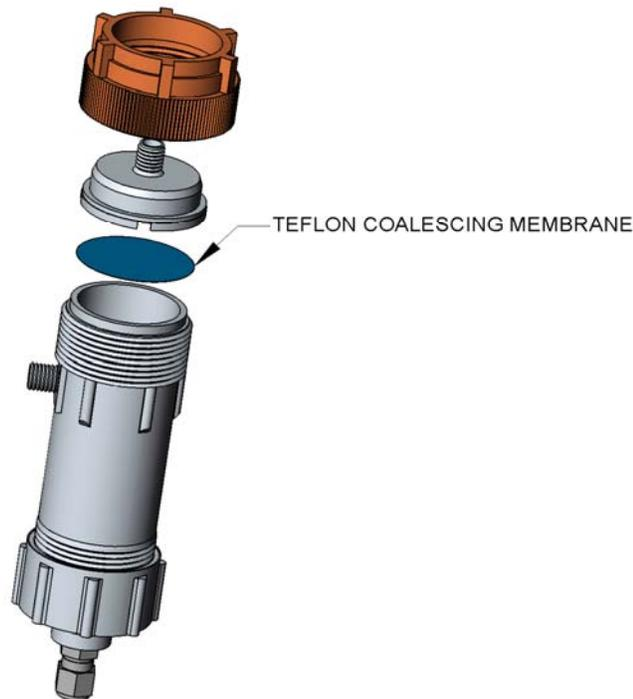

Figure 9-4 Replacing the Membrane of the Optional H₂O Coalescing filter
4. Remove the old membrane. It is located on the underside of the cap assembly (see Figure 9-4).